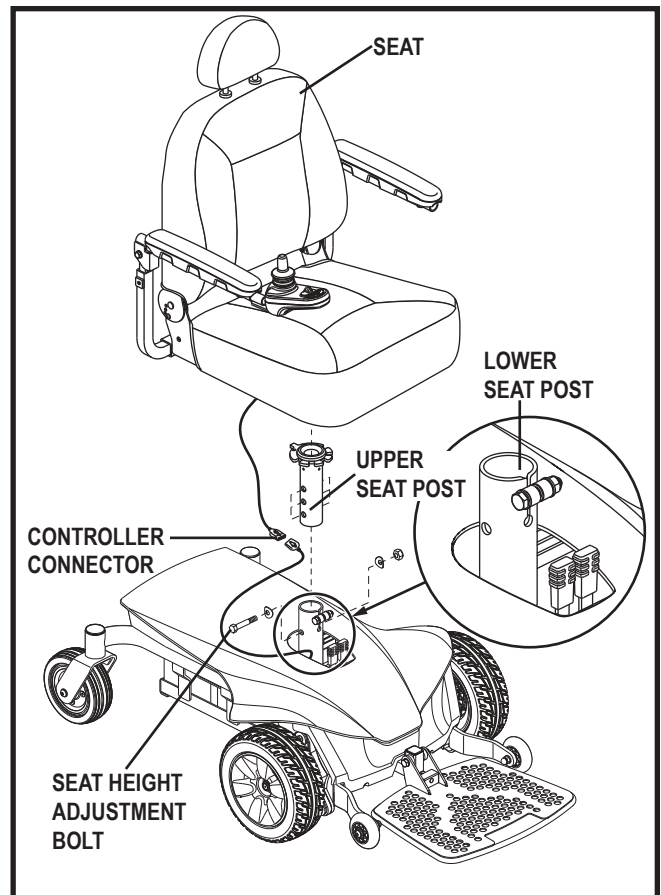

Figure 11. Seat Height Adjustment
3. Disconnect the controller connector from the power base. **See figure 11.**
5. Loosen the hardware at the front of the seat post. **See figure 11.**
6. Remove the seat height adjustment bolt, washers, and nuts from the seat post. **See figure 11.**